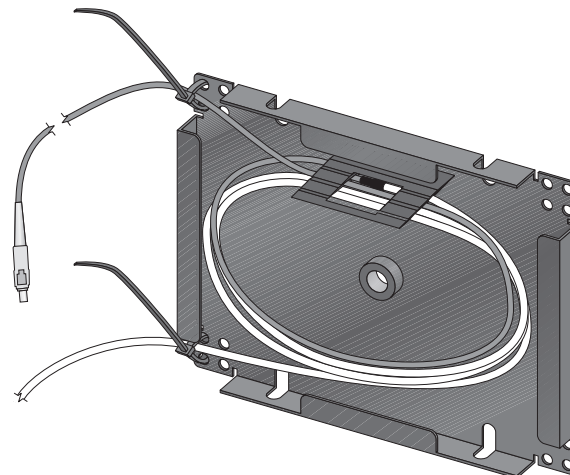

Figure 23. Securing the Pigtail
9. Route the pigtail once around the splice tray and out through the upper left corner and secure it with another wire tie, as shown in Figure 23.